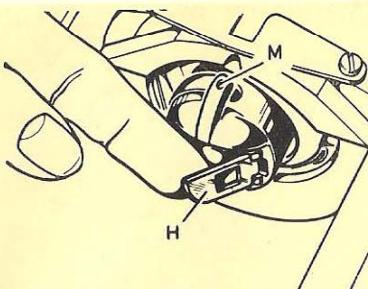

Fig. 7
- Remove bobbin case by lifting latch « H » and pulling it to the left (Fig. 7).
- Insert bobbin case by latch « H » (Fig. 7) and place it on centre stud of shuttle. Finger « M » must go into notch of shuttle ring.